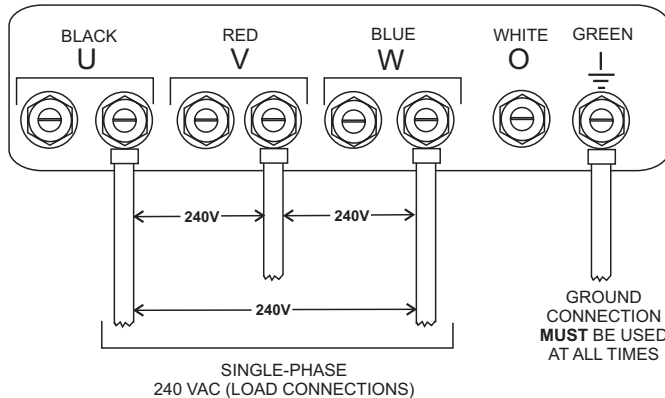

Figure 20. Voltage Regulator
4. Use the **voltage regulator** (Figure 20) to increase or decrease voltage output as needed. Turn clockwise to increase voltage output and turn counterclockwise to decrease output.